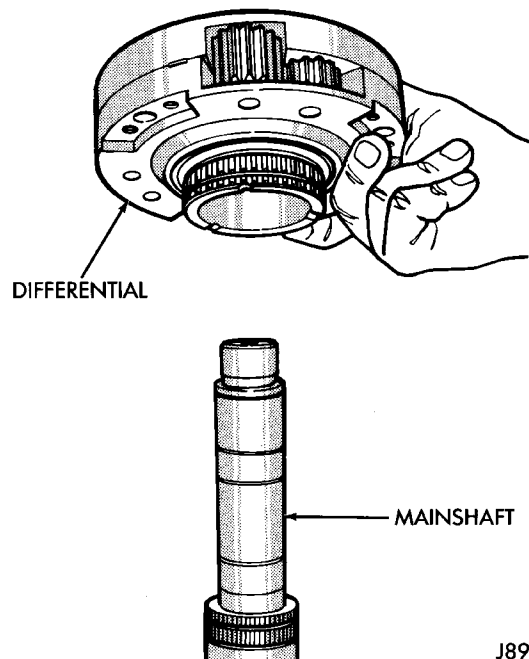

Fig. 34 Differential Removal
- (11) Remove differential (Fig. 34).
- (12) Remove differential needle bearings and both needle bearing thrust washers from mainshaft.